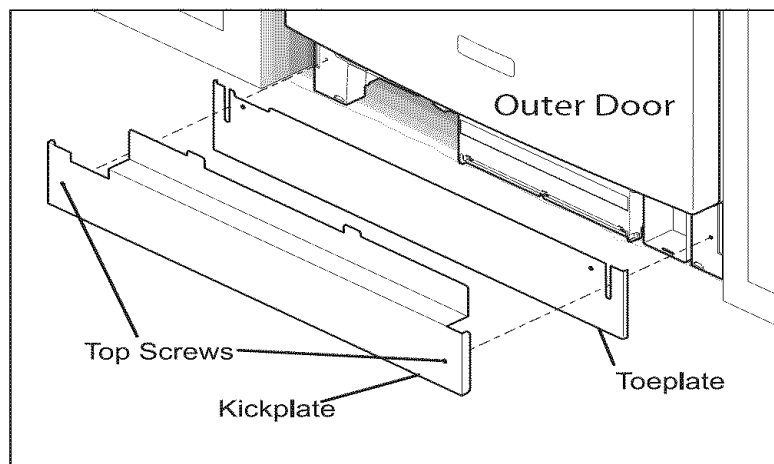

Figure 1
1. Remove two (2) screws at front of the kickplate assembly using #2 Phillips screw driver.
2. Tilt and pull forward to remove see figure 1.